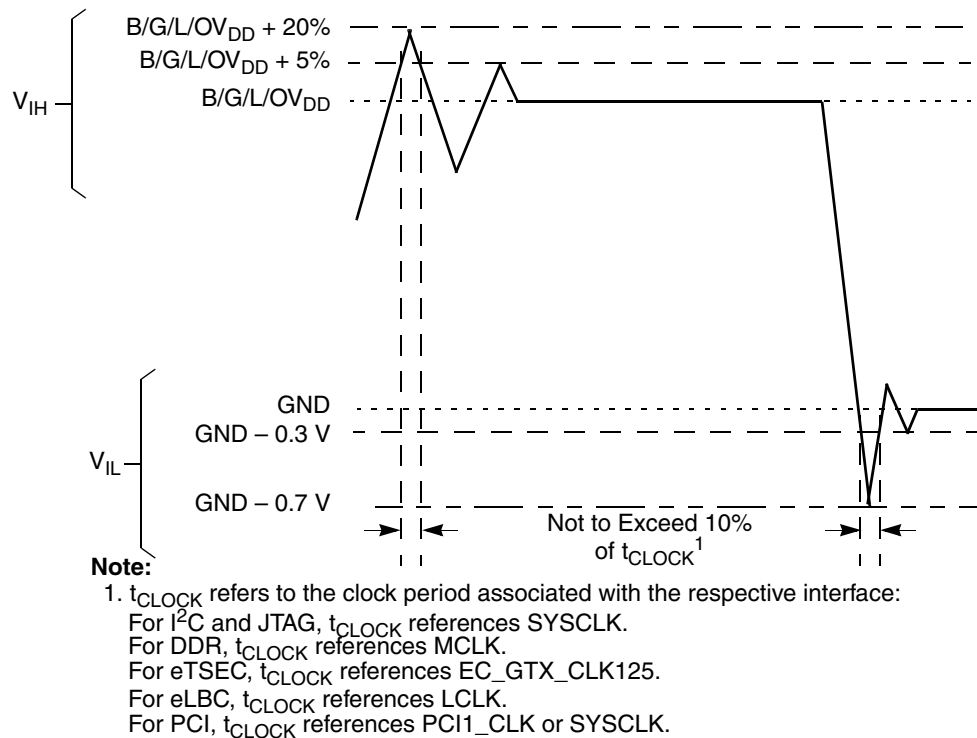

Figure 7. Overshoot/Undershoot Voltage for $G_{VDD}/O_{VDD}/L_{VDD}$
- (M,L,O) V_{IN} and MV_{REF} may overshoot/undershoot to a voltage and for a maximum duration as shown in Figure 7.